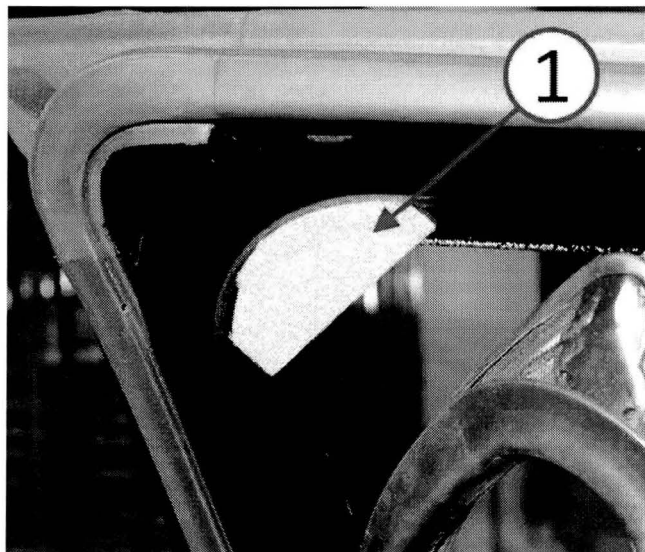

Fig. 3 Foam Piece Installed
4. Install the contoured foam piece in the upper B-pillar corner of the left front door window run channel. The foam piece curved contoured edge should not extend beyond the area covered by the window run channel seal (Fig. 3).